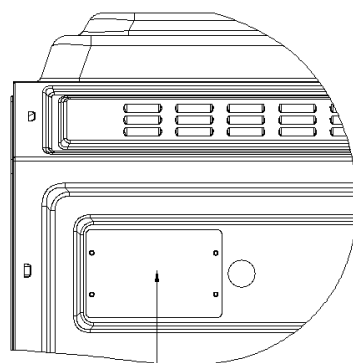

Fig.1.1
Step 1: Remove the wiring strip, as shown Fig.1.1